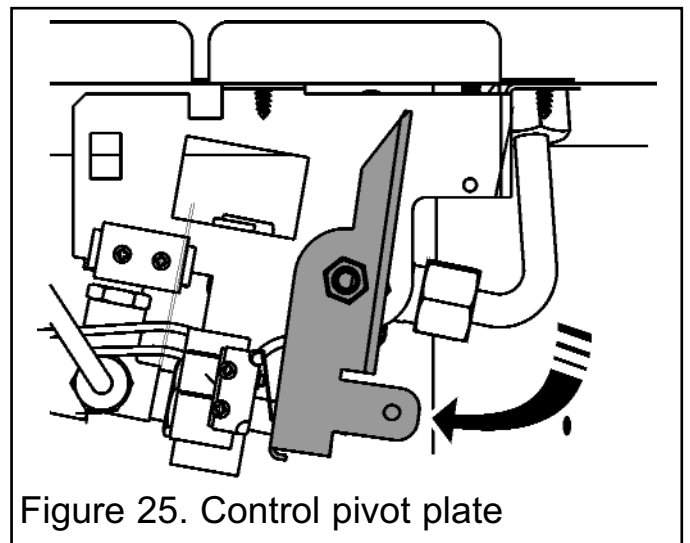

Figure 25. Control pivot plate
2. Rotate the control pivot bracket clockwise as far as it will go and hold in this position (See figure 25). This should close the ignition circuit and simultaneously open the gas tap allowing the gas to flow to the pilot. Wait a few seconds while the air is purged. The electronically generated sparks should light the pilot. The pilot should then light the main burner at its low setting. There may be a delay of up to four seconds between the pilot lighting and ignition of the gas at the main burner. This is normal and is due to the time required to fill the main burner compartment with sufficient gas for ignition.